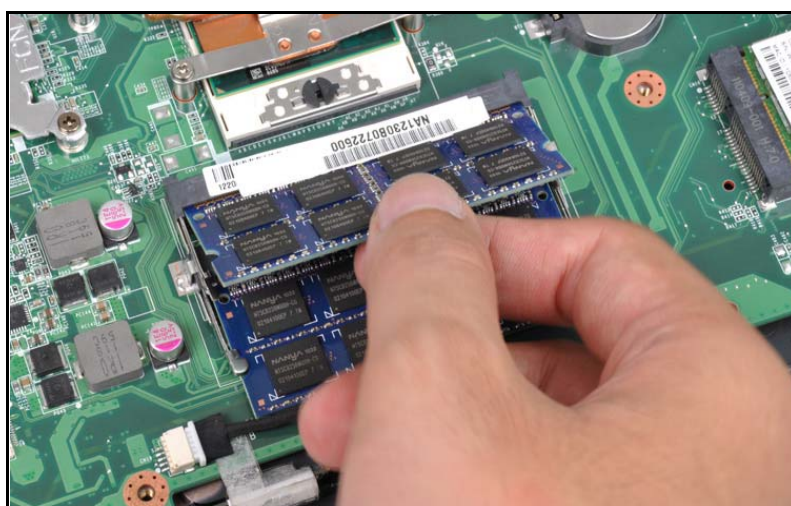

Figure 3-34. DIMM Removal
2. Remove the DIMM module (Figure 3-34).
3. Repeat steps for the second DIMM module if present (Figure 3-34).
1. Connect the DIMM to the mainboard connector (B). Refer to Figure 3-34.
2. Push down on the DIMM until the module clips (A) lock into position. Refer to Figure 3-34.